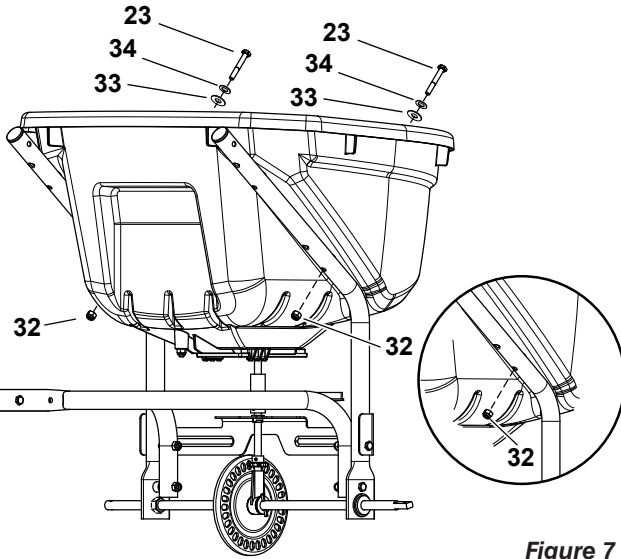

Figure 7
STEP 7: (SEE FIGURE 7)
- Attach the hopper to the lower set of holes in the hopper support tubes using four 1/4" x 1-3/4" hex bolts (23), 1/4" washers (34), nylon washers (33) and 1/4" nylock nuts (32). **Make only finger tight.**